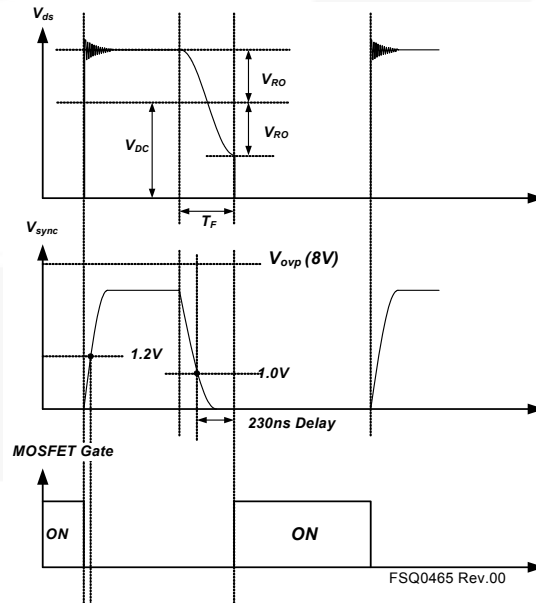

**Figure 23. Pulse-Width-Modulation (PWM) Circuit**
**2. Feedback Control:** FPS employs current-mode control, as shown in Figure 23. An opto-coupler (such as the FOD817A) and shunt regulator (such as the KA431) are typically used to implement the feedback network. Comparing the feedback voltage with the voltage across the  $R_{sense}$  resistor makes it possible to control the switching duty cycle. When the reference pin voltage of the shunt regulator exceeds the internal reference voltage of 2.5V, the opto-coupler LED current increases, pulling down the feedback voltage and reducing the duty cycle. This typically happens when the input voltage is increased or the output load is decreased.
**2.1 Pulse-by-Pulse Current Limit:** Because current-mode control is employed, the peak current through the SenseFET is limited by the inverting input of PWM comparator ( $V_{FB}^*$ ), as shown in Figure 23. Assuming that the 0.9mA current source flows only through the internal resistor ( $3R + R = 2.8k$ ), the cathode voltage of diode D2 is about 2.5V. Since D1 is blocked when the feedback voltage ( $V_{FB}$ ) exceeds 2.5V, the maximum voltage of the cathode of D2 is clamped at this voltage, clamping  $V_{FB}^*$ . Therefore, the peak value of the current through the SenseFET is limited.